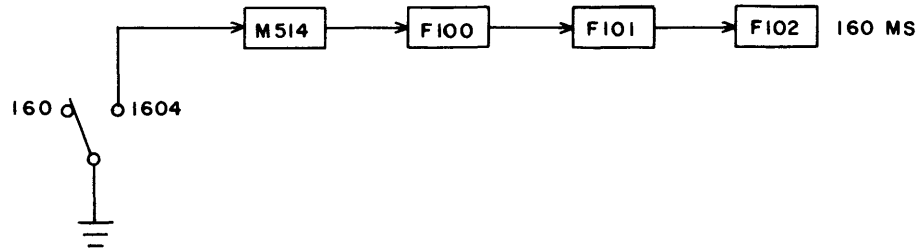

Figure 3-3. Manual Select
The Manual Select (MS) switch (figure 3-3) on the controller permits selection of operation with either the 160 or the 1604 computer. The switch position determines the input to M514. Outputs of inverters F100-F102 control circuits not common to both computers, enabling those that are to be used and disabling those that are not to be used.